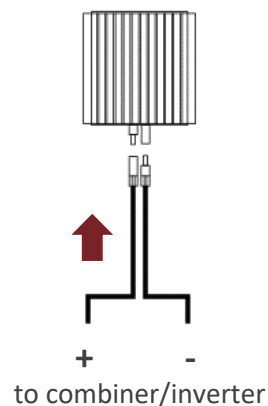

Figure 11: Connecting the output connectors
6. Connect the appropriate cables to the output (OUT) of the String Optimizer. Pay special attention to the voltage polarity and the connector gender of these cables as illustrated in Figure 11. See: